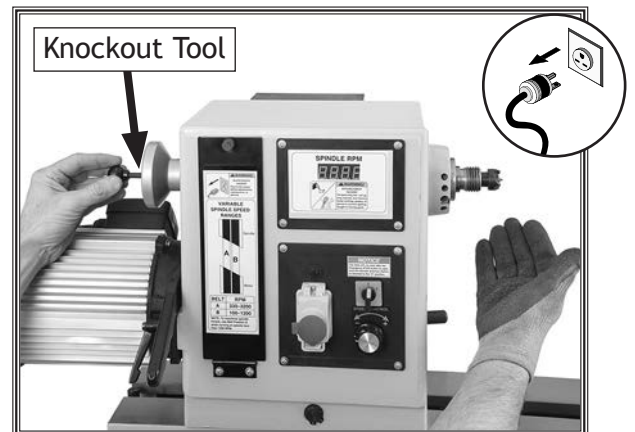

Figure 26. Removing the headstock center.
3. Insert knockout tool through outbound end of spindle and firmly tap back of center, catching it as it falls, as shown in **Figure 26**.